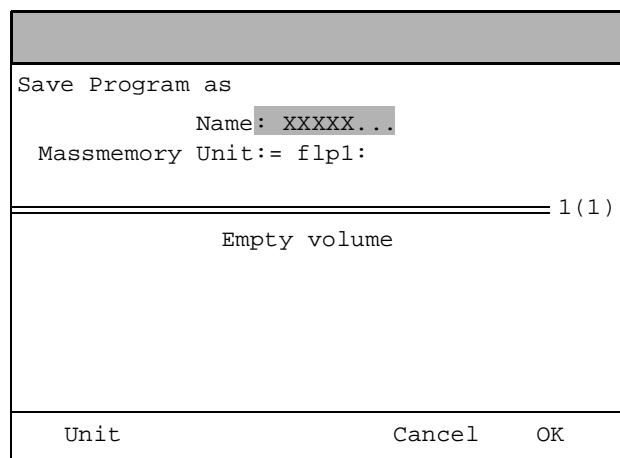

Figure 69 Window for storing the program on diskette.
8. Press Enter. The window in Figure 69 appears.
9. The program is saved onto diskette when you press **OK** (see Figure 69).